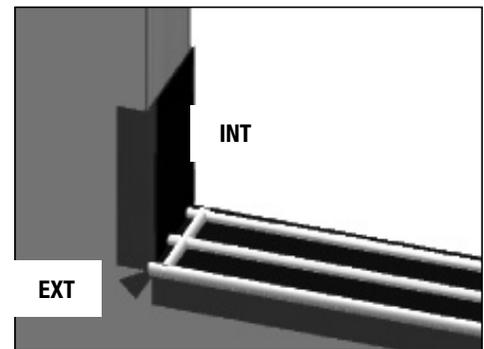

FIG. 12
- b. Apply a 1/4" continuous bead of silicone 1/2" from each side of the rough opening. The bead will run the entire depth of the jamb, starting at the face of the wall. (Fig. 12)